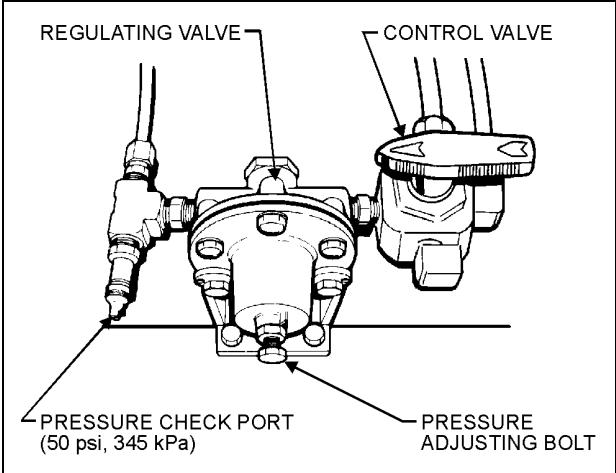

FIGURE 21: BELT TENSIONING PRESSURE CONTROL VALVE 12018
- 7. Reset belt tensioning pressure control valve to 50 psi (345 kPa) for vehicles with series 60 engine in accordance with Section 12, Brake (Fig. 21).